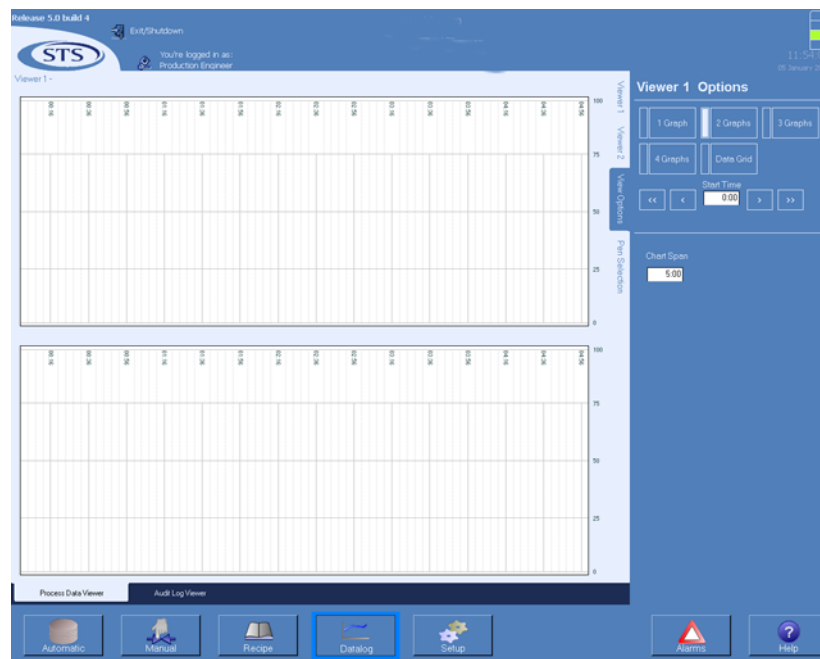

Figure 3.99 Typical View Options Tab
9. Enter the span time of the chart displayed in minutes, for example, the chart shown in Figure 3.99 shows a span time of 5 minutes.